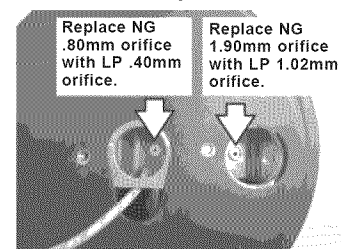
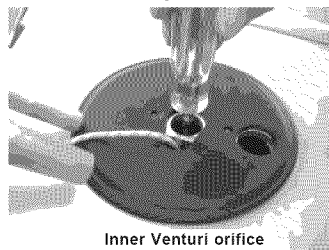

Fig. 9
Fig. 10
- Use a 7mm Nutdriver to remove both the Natural Gas orifices as shown in Figs. 10 & 11. Use the same 7mm Nutdriver to mount the correct corresponding L.P. Orifices (Refer to L.P. Kit Contents on page 1 and Fig. 9 to determine the correct L.P. Orifice replacement);